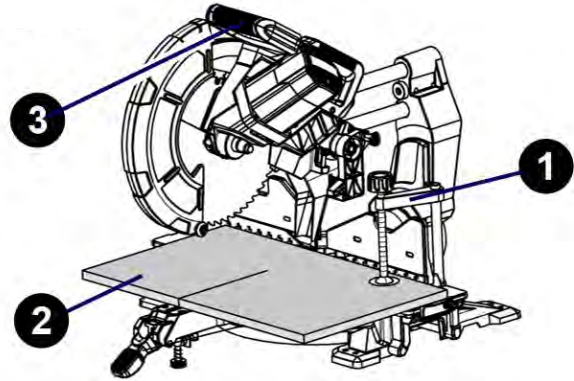

Fig. 15: Sawing wide panels
- Step 3: Secure the workpiece (Pos. 2, Fig. 15) with a workpiece clamp (item 1, Fig. 15).
- Step 4: Grasp the gear lever (Pos. 3, Fig. 15) and pull it forward until the center of the saw blade is over the front of the workpiece.